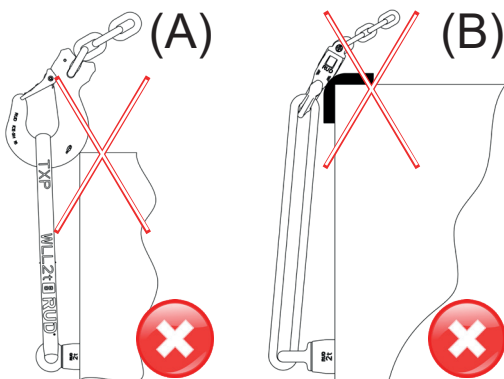

Fig. 10: (A) Forbidden edge load (hooks)
- The suspended lifting means must be freely moveable in the TXP round sling and must not support a load edge or be deflected on a sharp edge (Fig. 10).